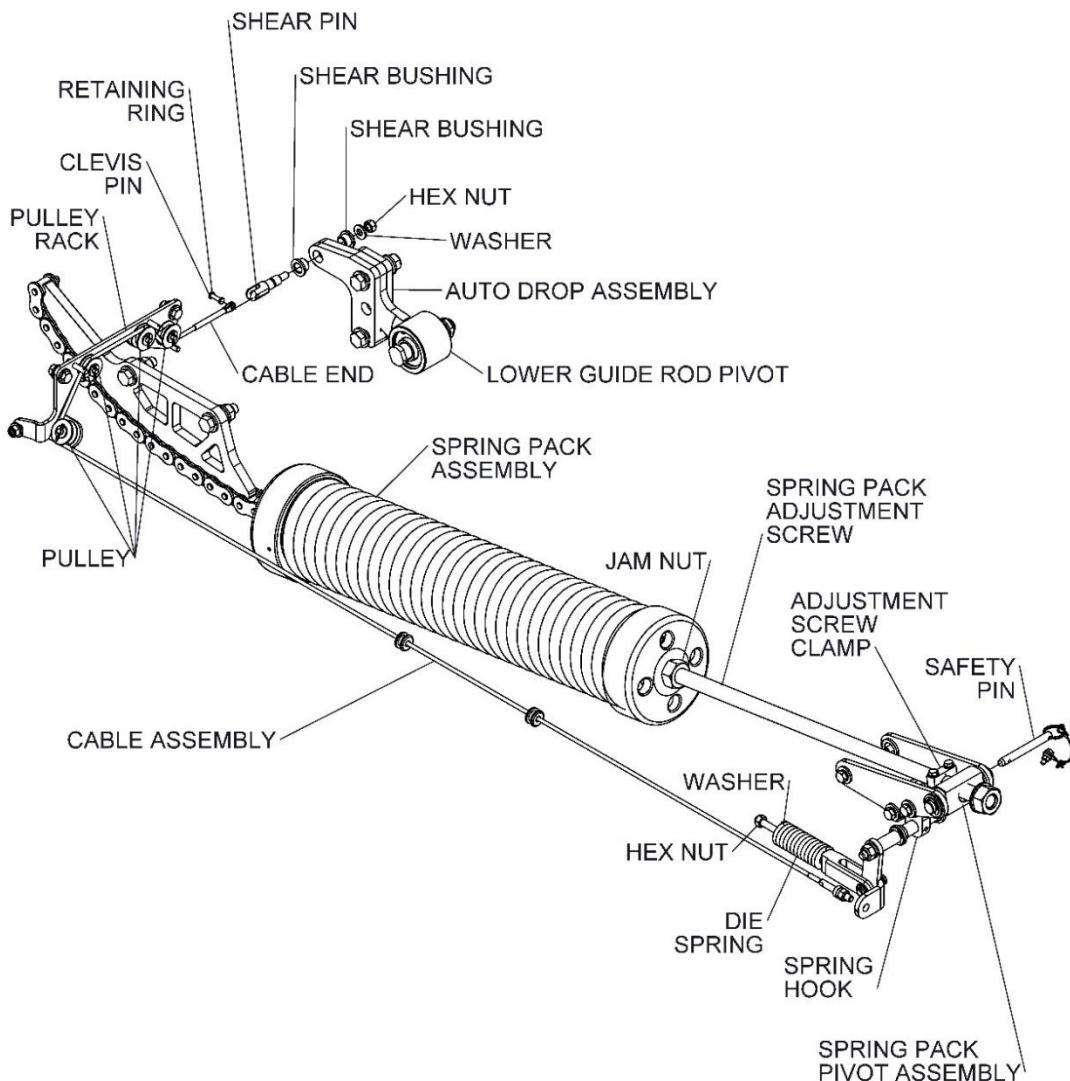

Figure 7-9: Shear Pin Replacement
2. Rotate the spring pack pivot assembly back into position as shown in Figure 7-9.
6. Install two new shear bushings, shear pin, washer and hex nut. Refer to Figure 7-9 for position of shear pin. Use the correct washers that come with the shear pin. Using incorrect washers will result in the shear pin not being centered and will compromise its function.
7. Ensure that the cable assembly is passing through each pulley on the pulley rack as shown in Figure 7-9. Loosen the cable at the spring pack pivot assembly.